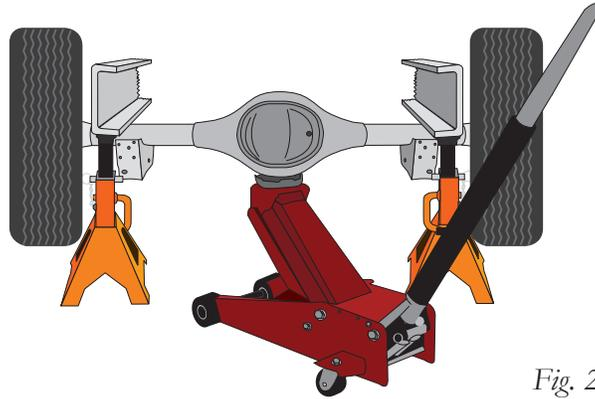

Fig. 2
1. Raise and support the vehicle in a way, using safety stands or equivalent, that the axle can be safely dropped away from the frame. This will need to be done for the air spring assembly to be put into position between the axles and frame (Fig. 2).